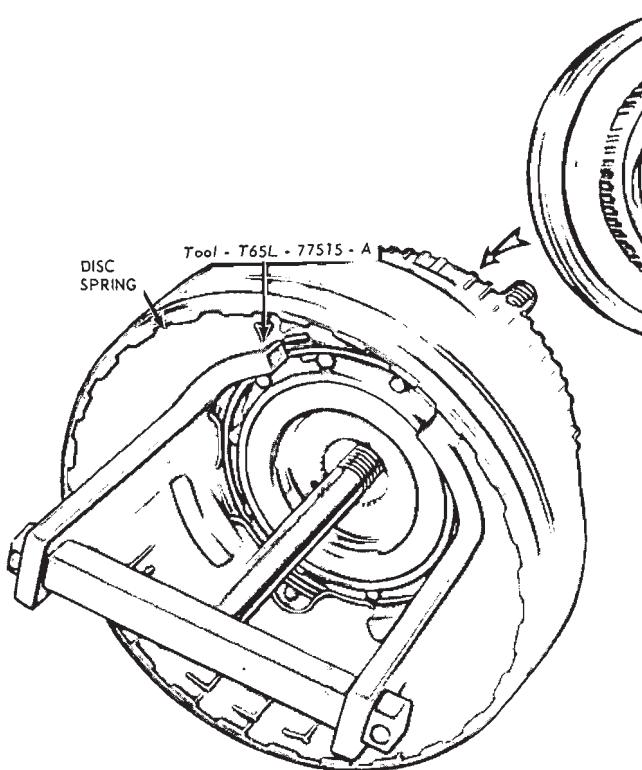

FIG. 53—Removing or Installing Disc Spring
3. Remove the snap ring (Fig. 53) that secures the disc spring in the clutch cylinder. Remove the disc